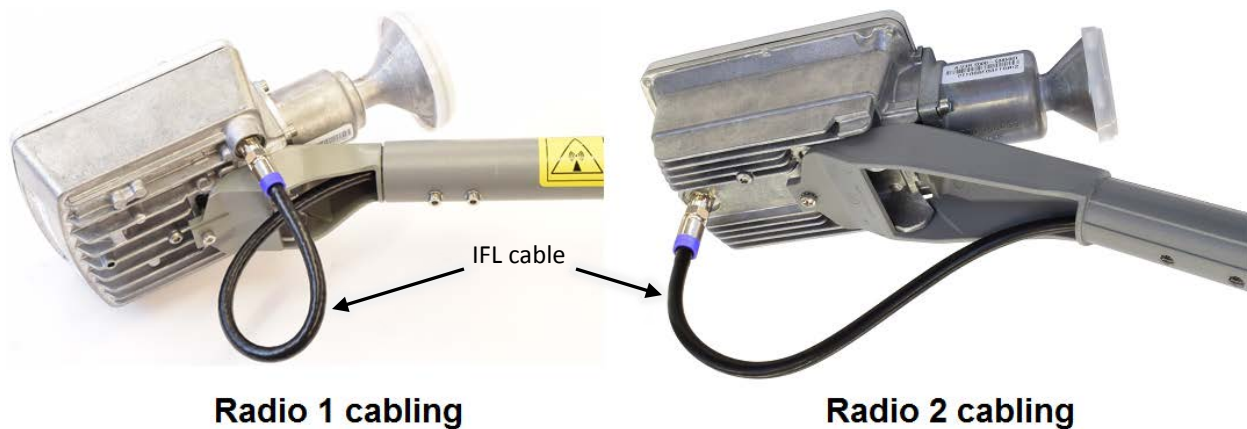

Figure 21: Hughes-approved IFL cable connector
Note: The cable should be routed in one of two different ways, depending on the type of radio being used. See Figure 21 for the two different variations.
3. Connect the IFL cable to the connector on the radio, as shown in Figure 21.